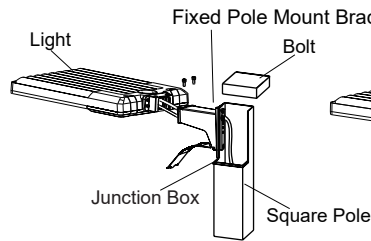

Figure 8
Step 2: Feed supply wires from inside the pole through the mounting bracket base. Put the connected wire into Pole, connect the wire properly and cover the junction box. (Figure 8) Same as round pole installation, please remember to use the adapting plate for round pole installation. (Figure 9)